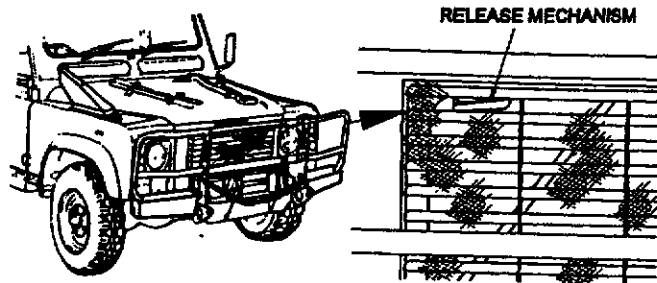
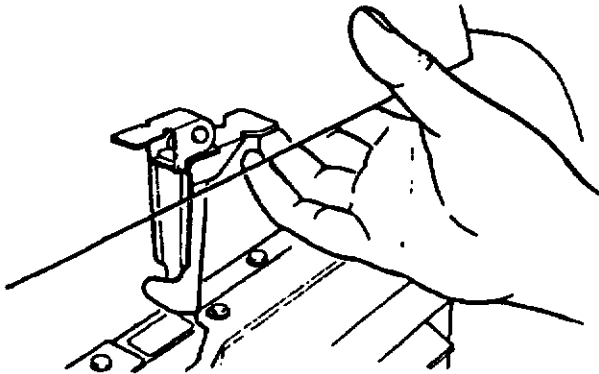

Figure 1-14 Bonnet Release Lever
Figure 1-15 Bonnet Safety Catch
93. The bonnet release lever is located in the right of the radiator grille at the front of the vehicle, and by pulling the lever toward the passenger side, the bonnet catch will release. Lift the bonnet safety catch lever and raise the bonnet. Pull the support stay forward to secure the bonnet in the open position. The bonnet release lever is illustrated in Fig. 1-14 and the bonnet safety catch is illustrated in Fig. 1-15.